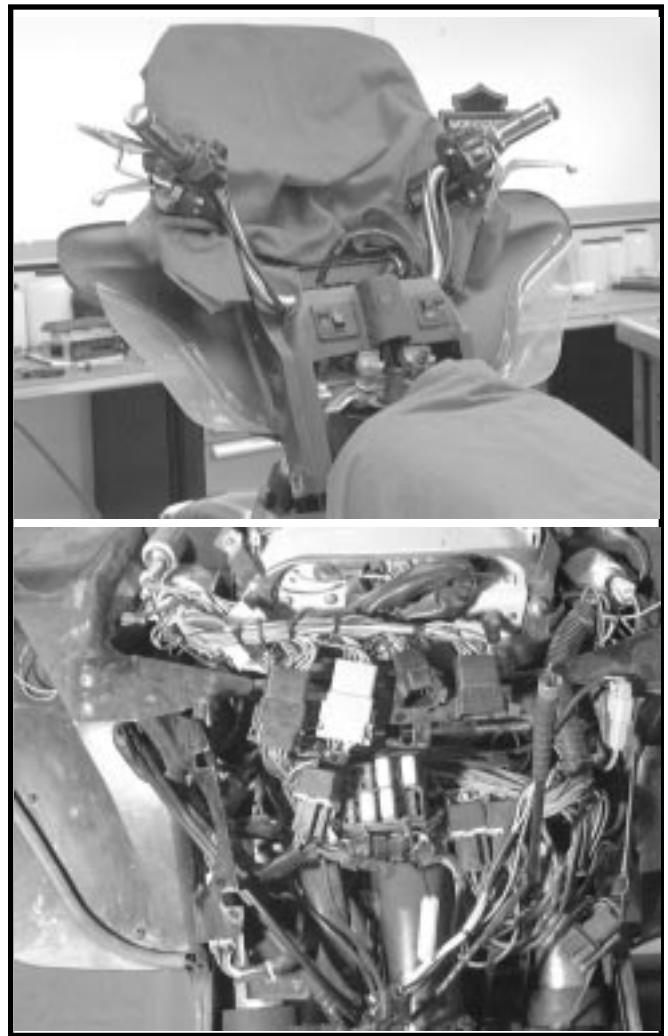

Figure 8.
8. Use a bungee cord to hold handlebars in place. See Figure 8.
11. Tilt fairing assembly forward and allow to rest on handlebar clamps. See Figure 8.